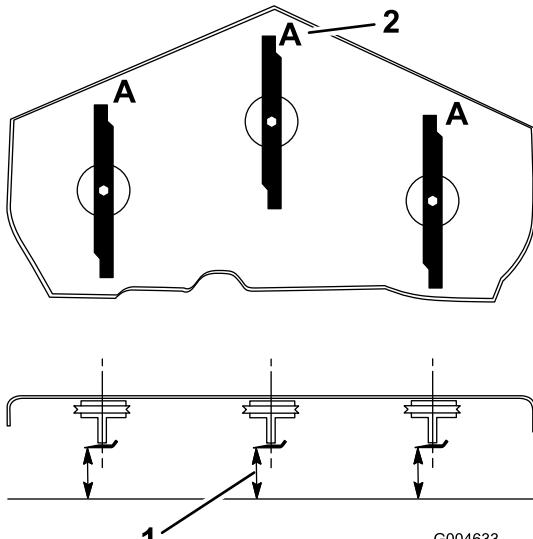

Figure 73
3. Rotate the blades until the ends face forward and backward (Figure 73). Measure from a level surface to the cutting edge, position A, of the blades (Figure 73). Note this dimension.